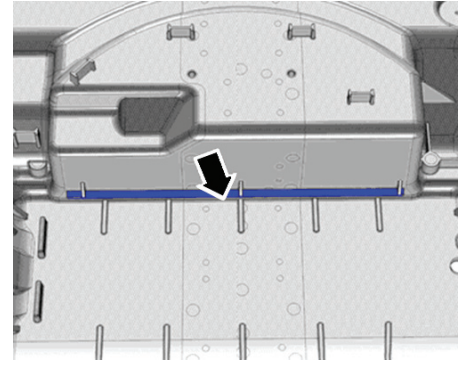

Fig. 2 Battery tray strip
1. Install battery in battery tray so that battery clamping strip fits into strip in battery tray (arrow), **Fig. 2**. It should no longer be possible to move battery.